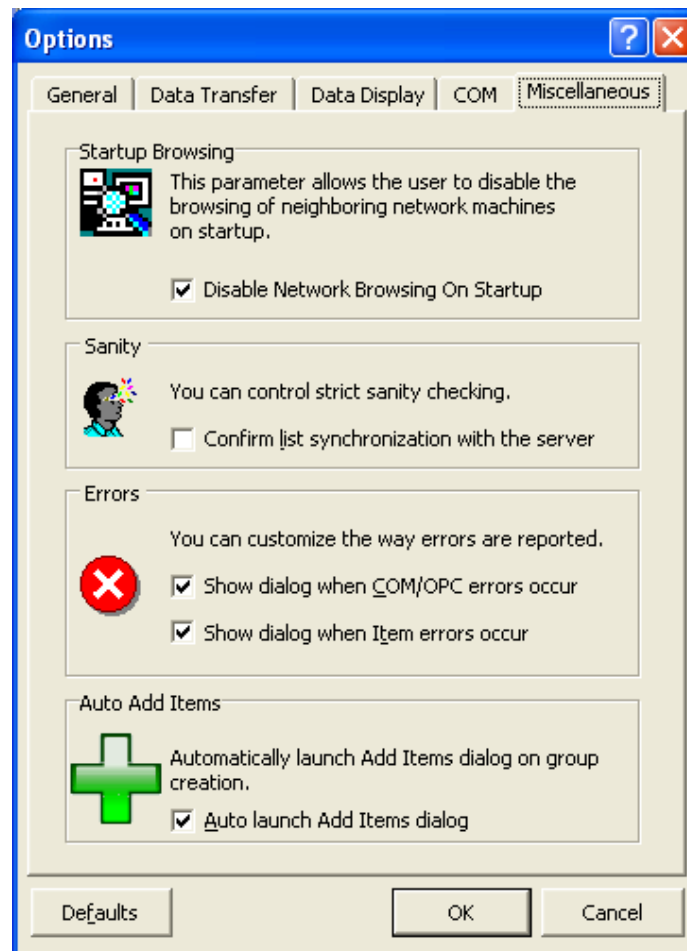

Figure 33 - Miscellaneous Options Tab
3. From the **Options** window, select the **Miscellaneous** tab (Figure 33).